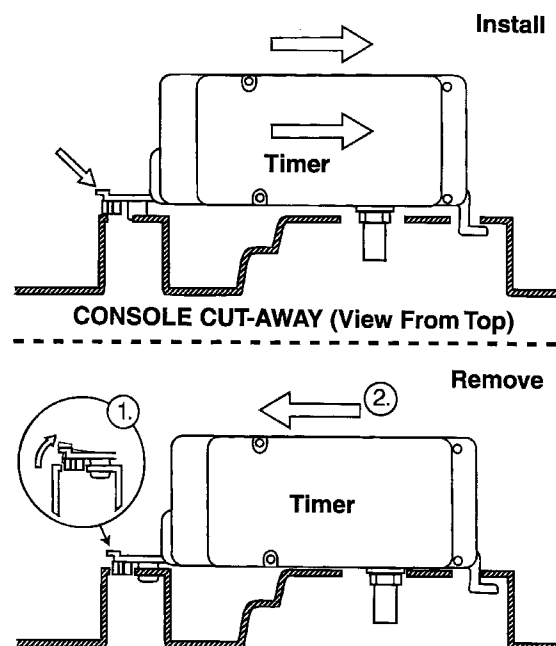

Figure 4-8
5. Slightly lift the locking tab on the back of the timer (*Figure 4-8*).